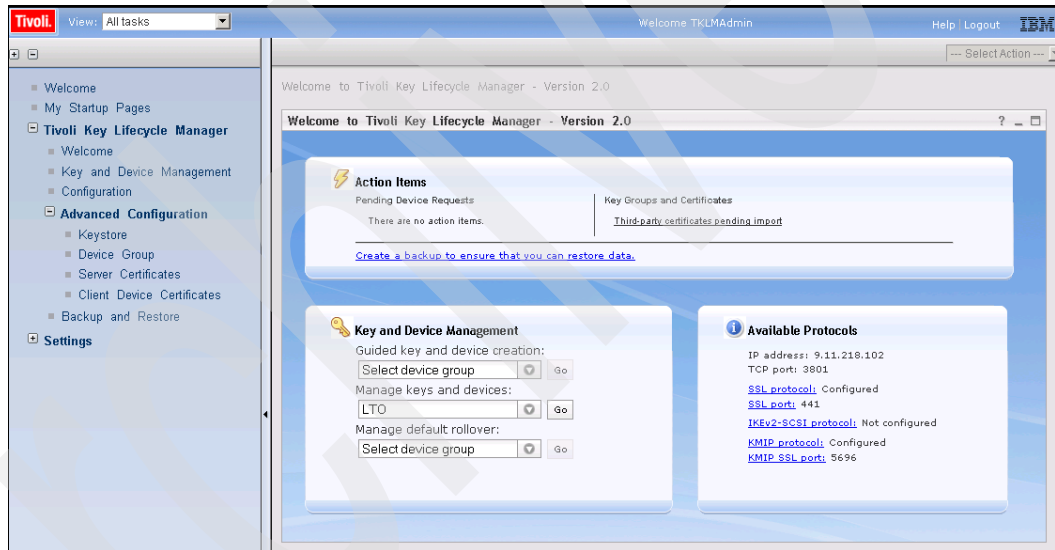

Figure 9-66 Welcome panel with LTO selected in manage keys and devices field
2. On the Welcome panel, select the LTO key group from the **Manage keys and devices** drop-down list and click **Go** (Figure 9-66).